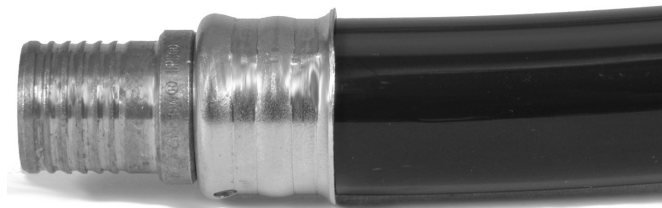

Figure 3 – Completed Pressed Fitting
- Inspect the pressed connection (*Figure 3*) – Look for the following: